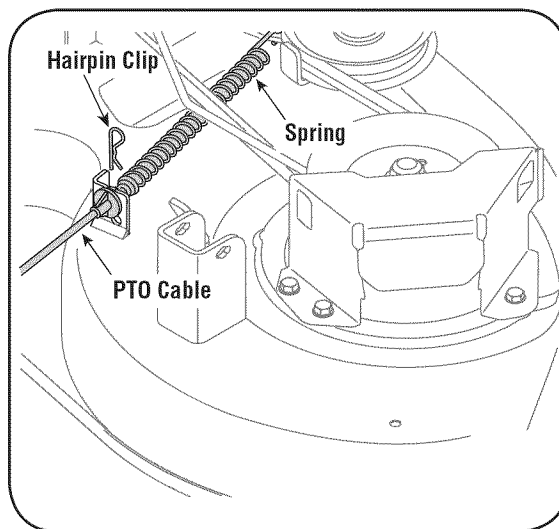

Figure 6-3
3. Remove the hairpin clip that secures the PTO cable to the rear of the cutting deck. See Fig. 6-3. Remove the PTO cable and accompanying spring from the cutting deck.